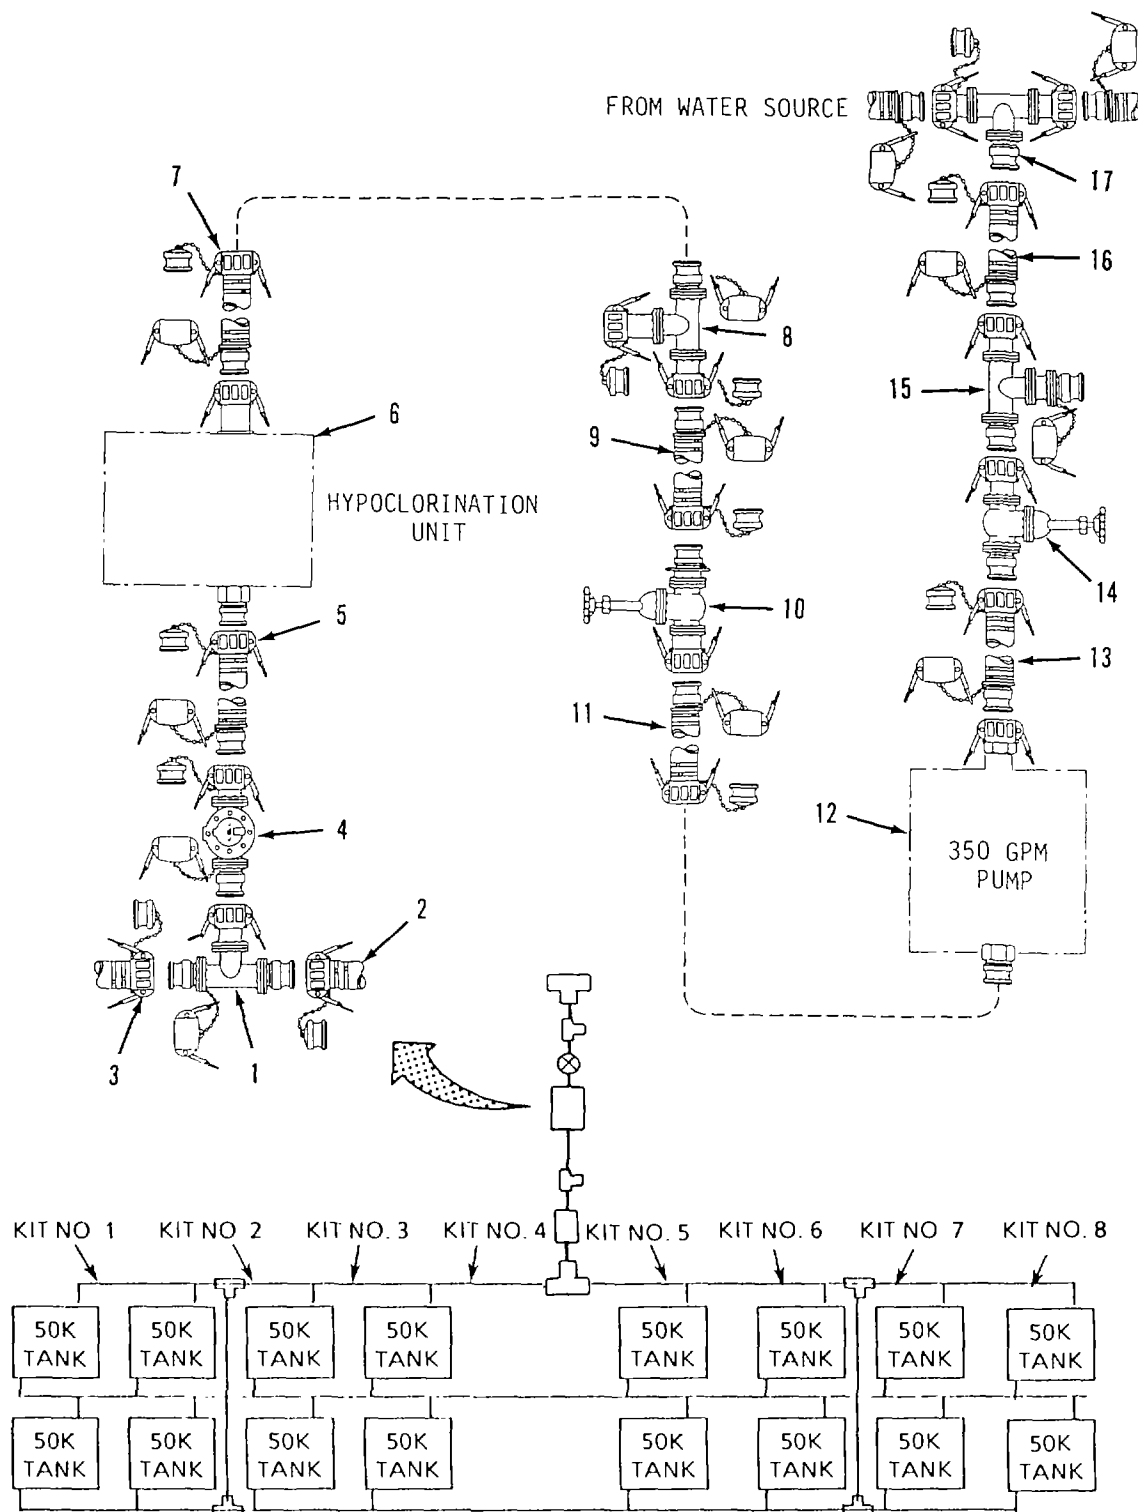

Figure 2-15. 350 Gpm Pump Connection Kit Assembly (Water Source).
- h. Assemble 350 Gpm Pump Connection Kit (Water Source). Refer to figure 2-15.